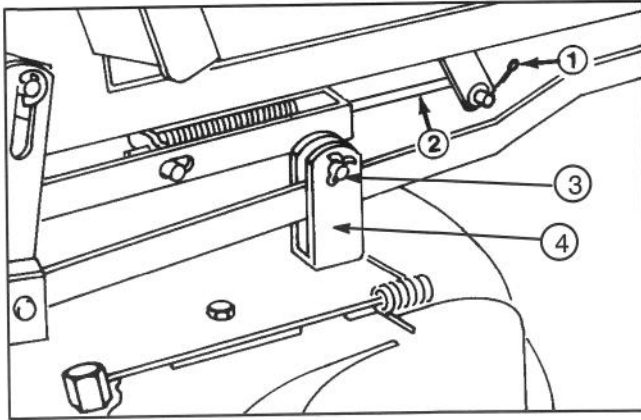

Figure 25
4. Remove cotter pin from adjustment rod and pull from pivot tube arm (Fig. 25).
2. Remove cotter pin from adjustment rod (Fig. 25).